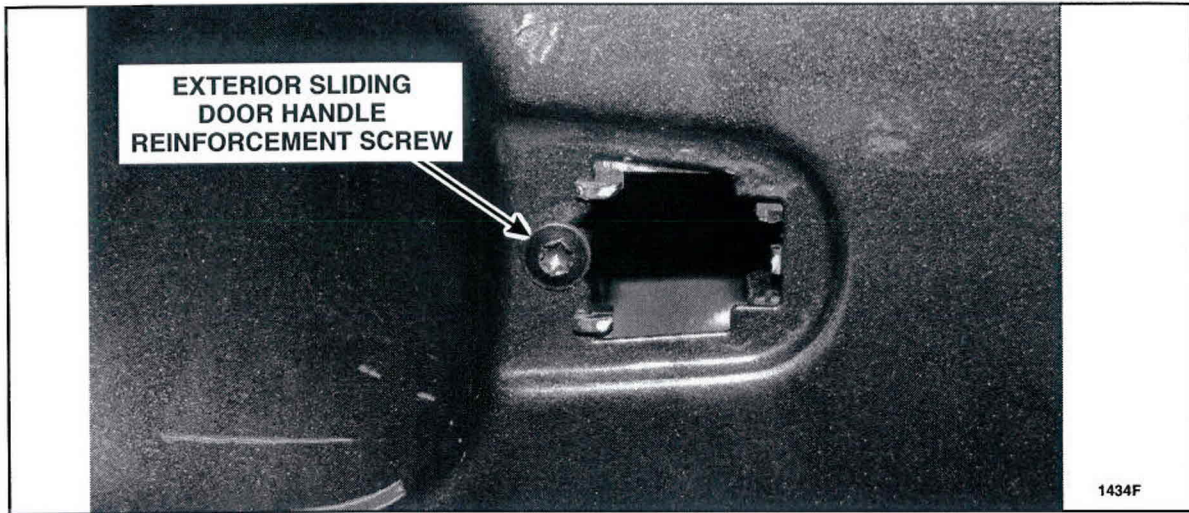

FIGURE 6
7. Remove the exterior sliding door handle reinforcement screw. See Figure 6.
15. Install the exterior sliding door handle reinforcement screw. See Figure 6.